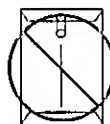

Figure 1
- Envelopes with clasps, snaps or tie strings (see Figure 1)